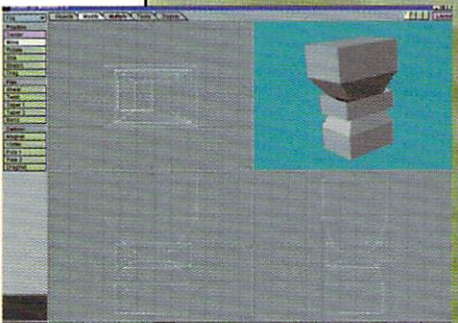

Figure 4
4. To continue down, Bevel the bottom poly and move it slightly down and make it larger. Bevel the bottom again and move it straight down without resizing it. This makes up the pelvic area shape. To prepare the leg, bevel the bottom, and resize it so that it is to the left of its original place like in Figure 4.
If you were to NURB the object now, you would begin to see the character taking shape. We have a deformed torso and a belt. We will work our way down, and worry about the torso later. For now, select the bottom-most poly and Bevel it, move it down, and make it a little larger. Bevel it again, and move it down again. This gives the pelvic area its general shape, so let's prepare the leg. Bevel the very bottom poly of the object, resize it, and move it so that it is on the left side of where it used to be. Figure 4 shows you where it should be.